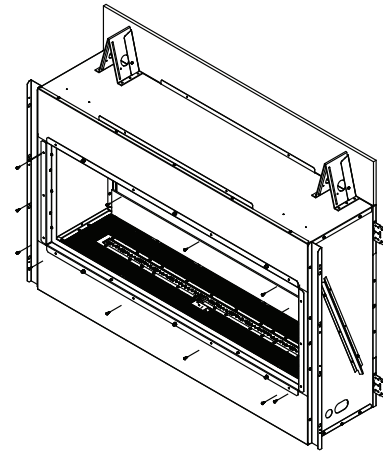

Figure 5
9. Attach the inner glass assembly frame to the appliance face with the self-drilling screws provided. See Figure 5.